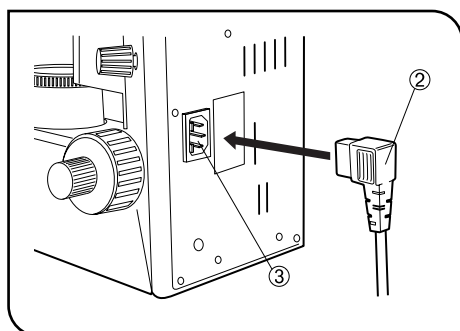

Fig. 5
1. Connect the power cord plug ② to the AC receptacle ③. (Fig. 5)